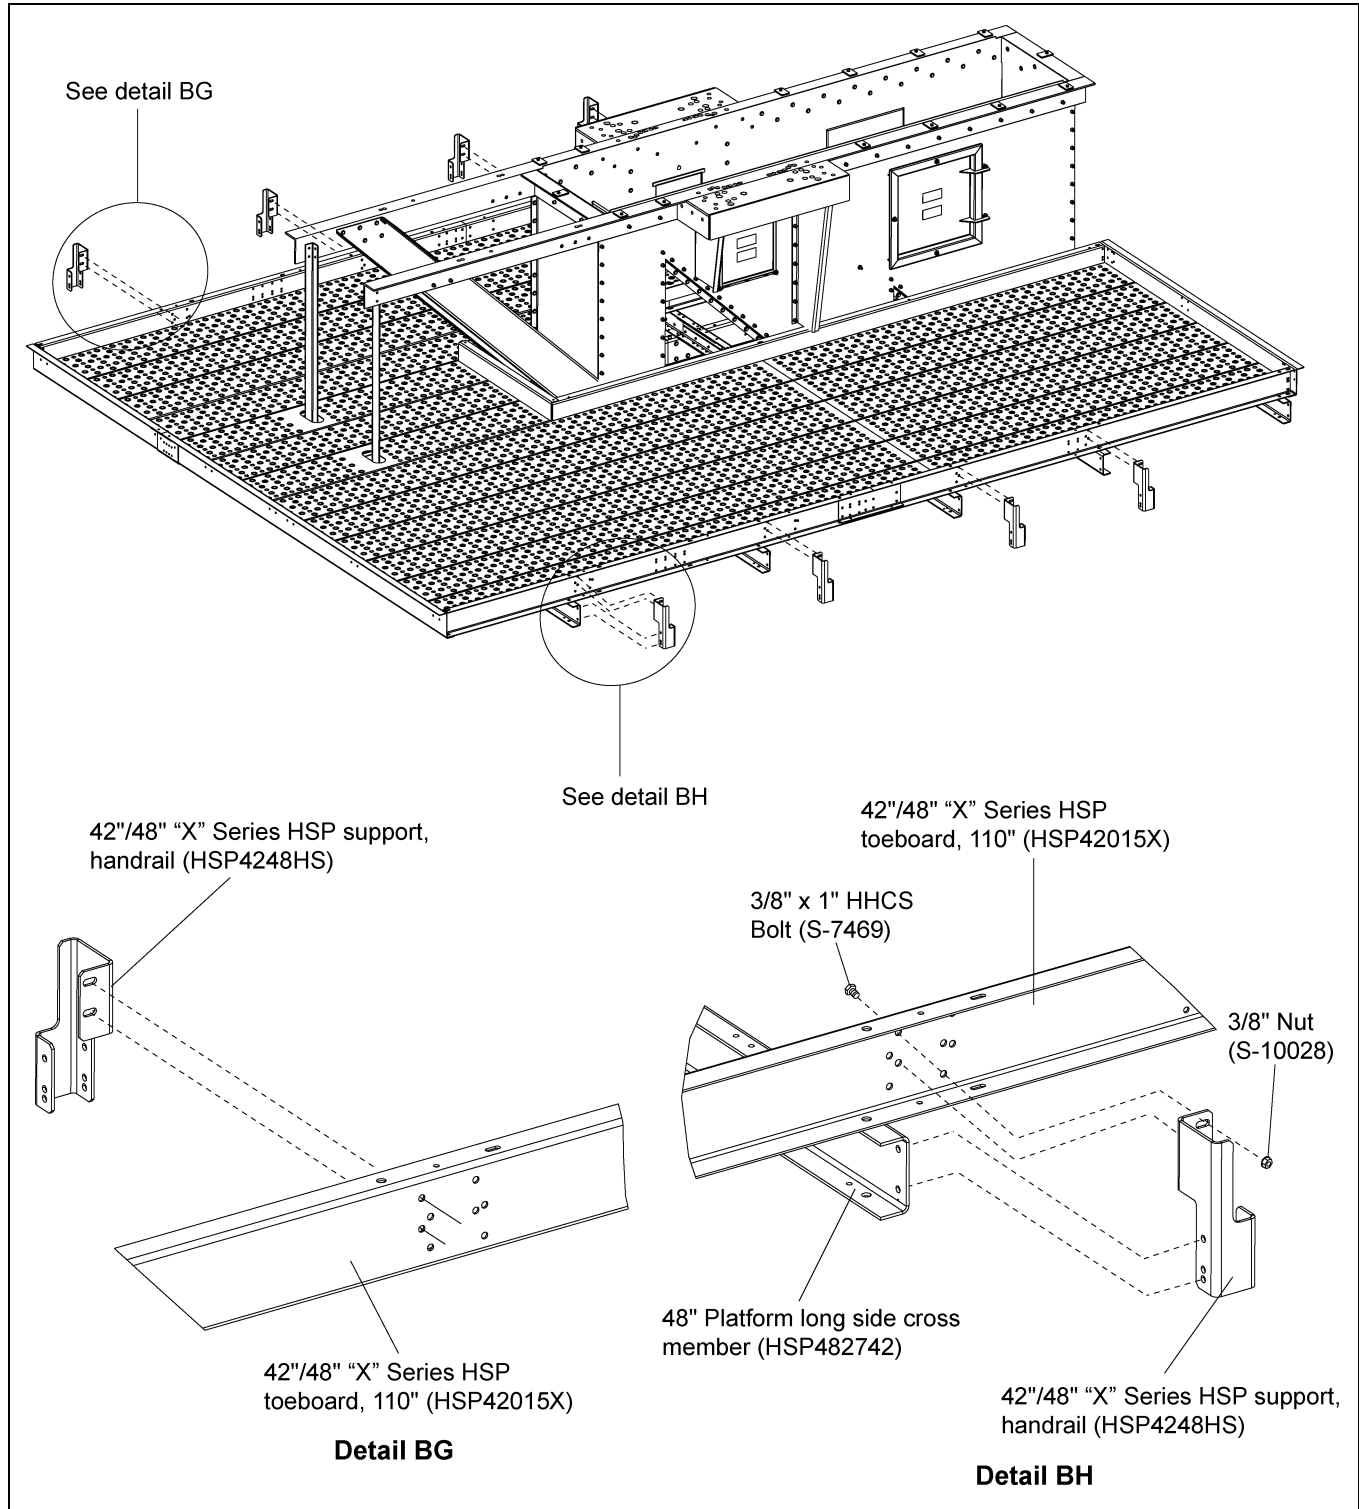

Figure 9P
1. Attach the ends of each cross support channel to the toe boards using eight (8) handrail support brackets (HSP4248HS). Fasten together using 3/8" x 1" HHCS bolts (S-7469) and 3/8" flange nuts (S-10028). (See Figure 9P.)